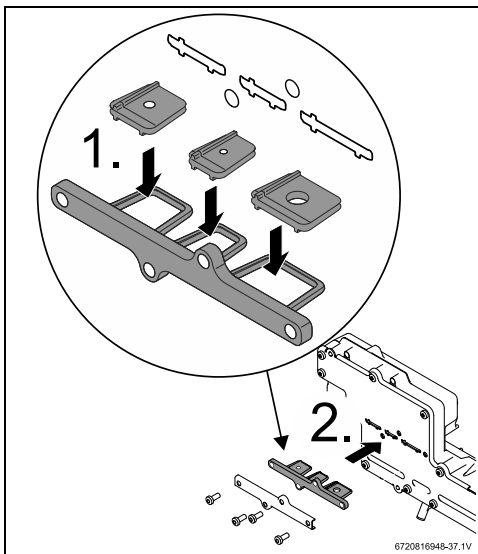

Fig. 48 199kBTU appliance gas conversion kit
- ▶ The 3 restrictor plates should be pre-assembled onto their tray, but if loose in box, follow installation instructions, as shown in fig. 48 and 49 [1].
- ▶ Insert the LP conversion plate in the appropriate location shown in fig. 48 and 49 [2].
- ▶ All three flow restrictors and seal must be assembled according to the fig. 48 and 49, to assure correct appliance performance.